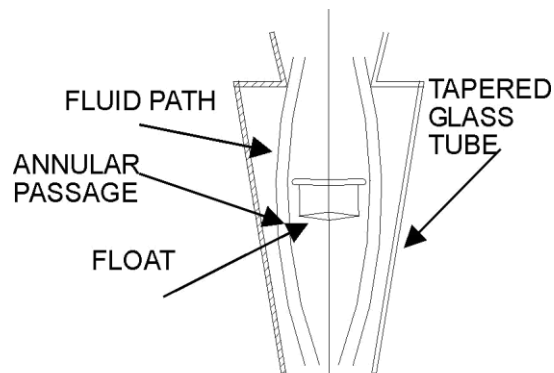

FIG. 2 SHOWING FLOAT LIFT
3. As the float moves upwards, an annular passage is opened between the wall of tapered glass tube and float periphery as shown in figure 2.